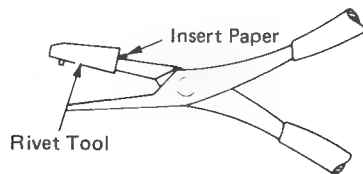

Figure 5
4. If rivet heads remain in arms, install rivet tool on one side of duckbill pliers and punch rivet out. A piece of paper may be placed inside the rivet tool to help hold tool on duckbills (Figure 5).